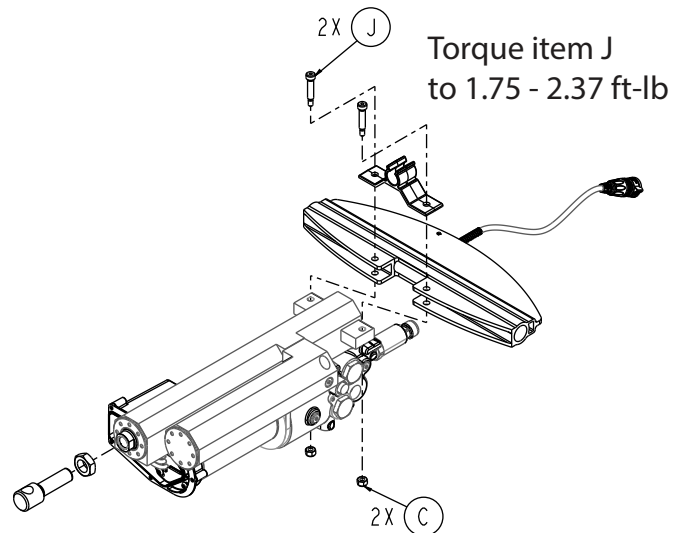

Figure 106 – Remove the actuator assembly bolts and nuts
9. Using a 1/8" hex wrench and 3/8" combination wrench, remove the two socket head shoulder bolts (J) and Fiberlock hex nuts (C) that secure the hydraulic cylinder assembly to the X-frame cross brace (Figure 106). Save the bolts and nuts.